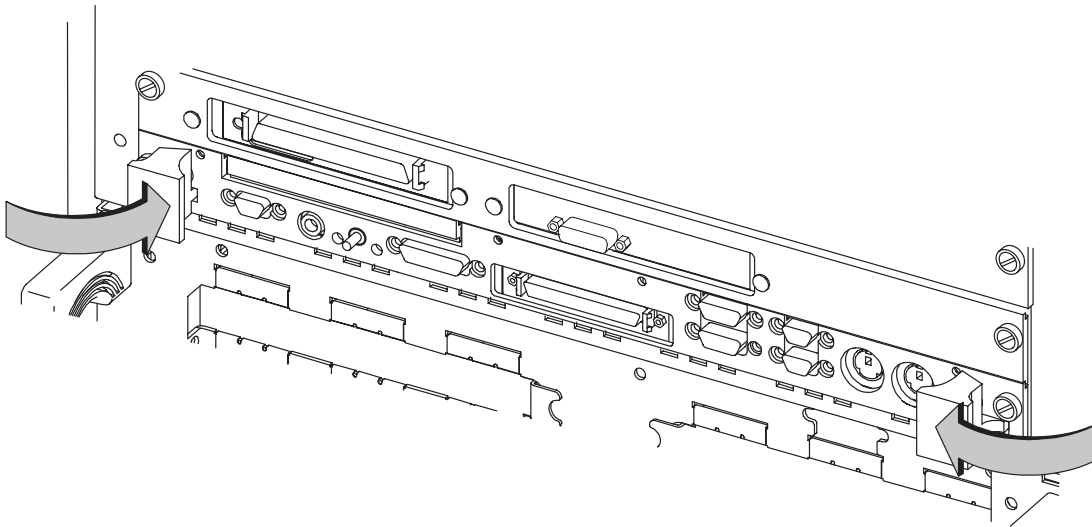

Figure 2-5. Replacing the Single Board Computer
- b. Push on the SBC's ejector handles until it is fully seated in the card cage, as shown in Figure 2-5.